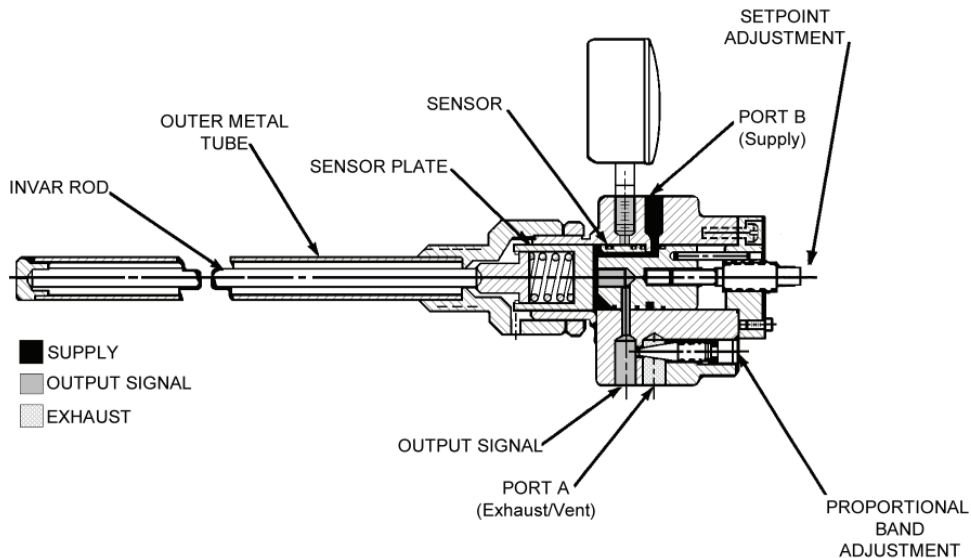

Figure 7: 764T Direct Action View Shows Port A & B Rotated From Actual Position
3. On direct acting controllers, see Figure 7, the supply enters PORT B. With an increase in the sensed temperature the supply air flowing through the sensor orifice increases, which elevates the output signal. The proportional band restriction regulates the flow of exhaust through PORT A.